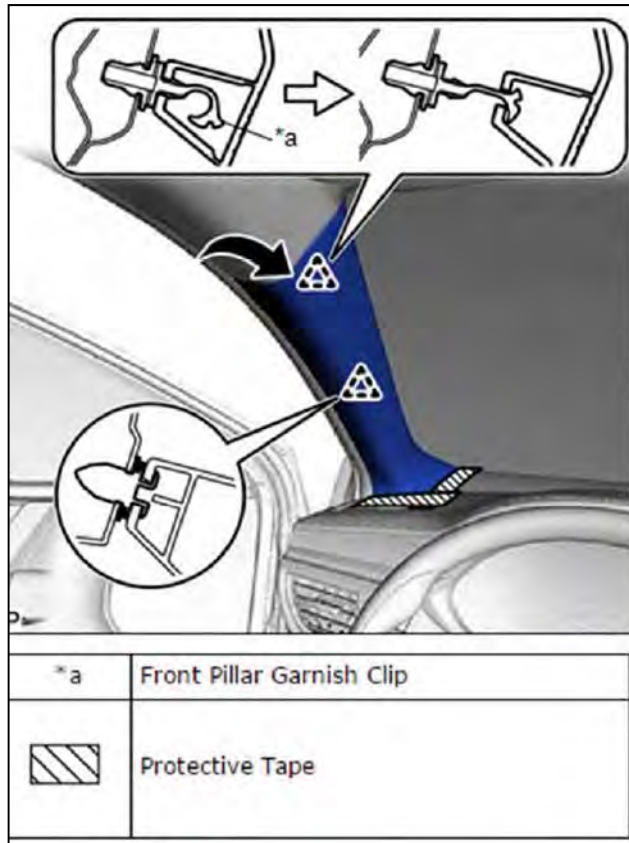

Figure 3
3. Apply protective tape around the front pillar garnish assembly LH. Pull the upper part of the front pillar garnish assembly LH toward the inside of the cabin and disengage the front pillar garnish assembly LH from the base of the 2 clips. See figure 3.